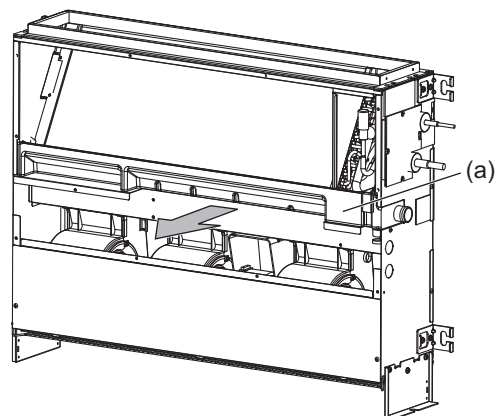

Fig.6
- (1) Drain the water out of the drain pan before removing it.
- (2) Pull out the drain pan in the direction of the arrow. (Fig. 6)